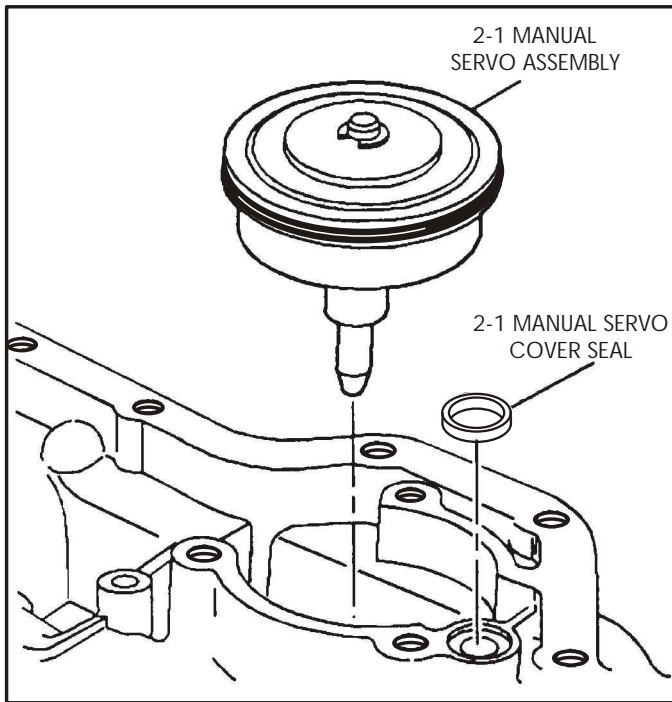

Figure 199
8. Install the pre-assembled 2-1 manual servo assembly into the case, as shown in Figure 199, with the servo screen oriented toward the side cover.
9. Install the 2-1 manual servo seal into the case cavity, as shown in Figure 199.